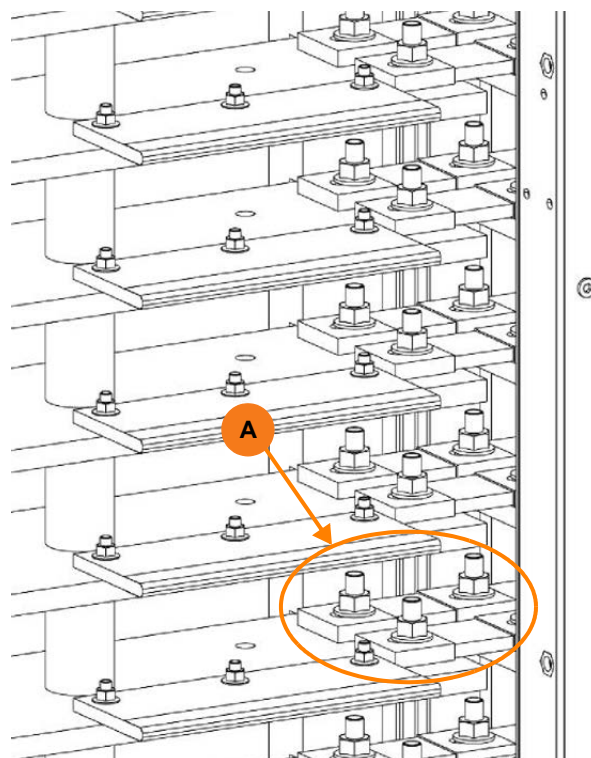

Figure 5.12 Flexible busbars (AC)
1. From the back of the cabinet, insert 16x flexible busbars links between the power busbars in Frame A and Frame B, as shown in Figure 5.12 (A).